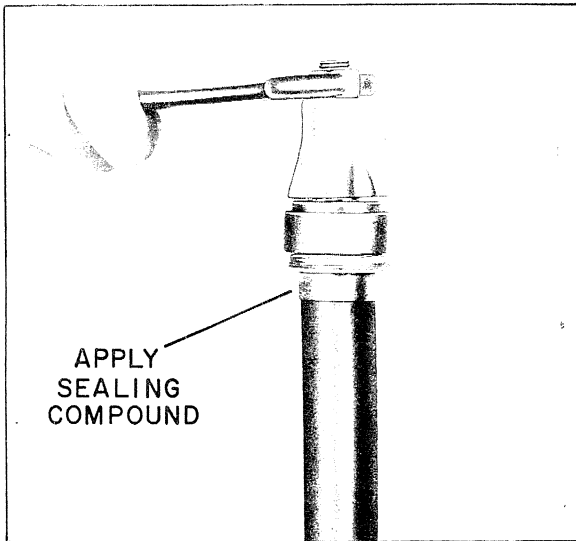

Figure 103
7. Assemble the WH1X471 shield over the seal, and force the drive block onto the activator shaft until it bottoms. To do this, use a flat washer and a WH2X541 (or a 7/16" - 20) hex-nut on the activator shaft to force the drive block into place. This nut is the same as that used to hold the pulley to the pinion shaft on the bottom of the transmission, *Figure 103*.